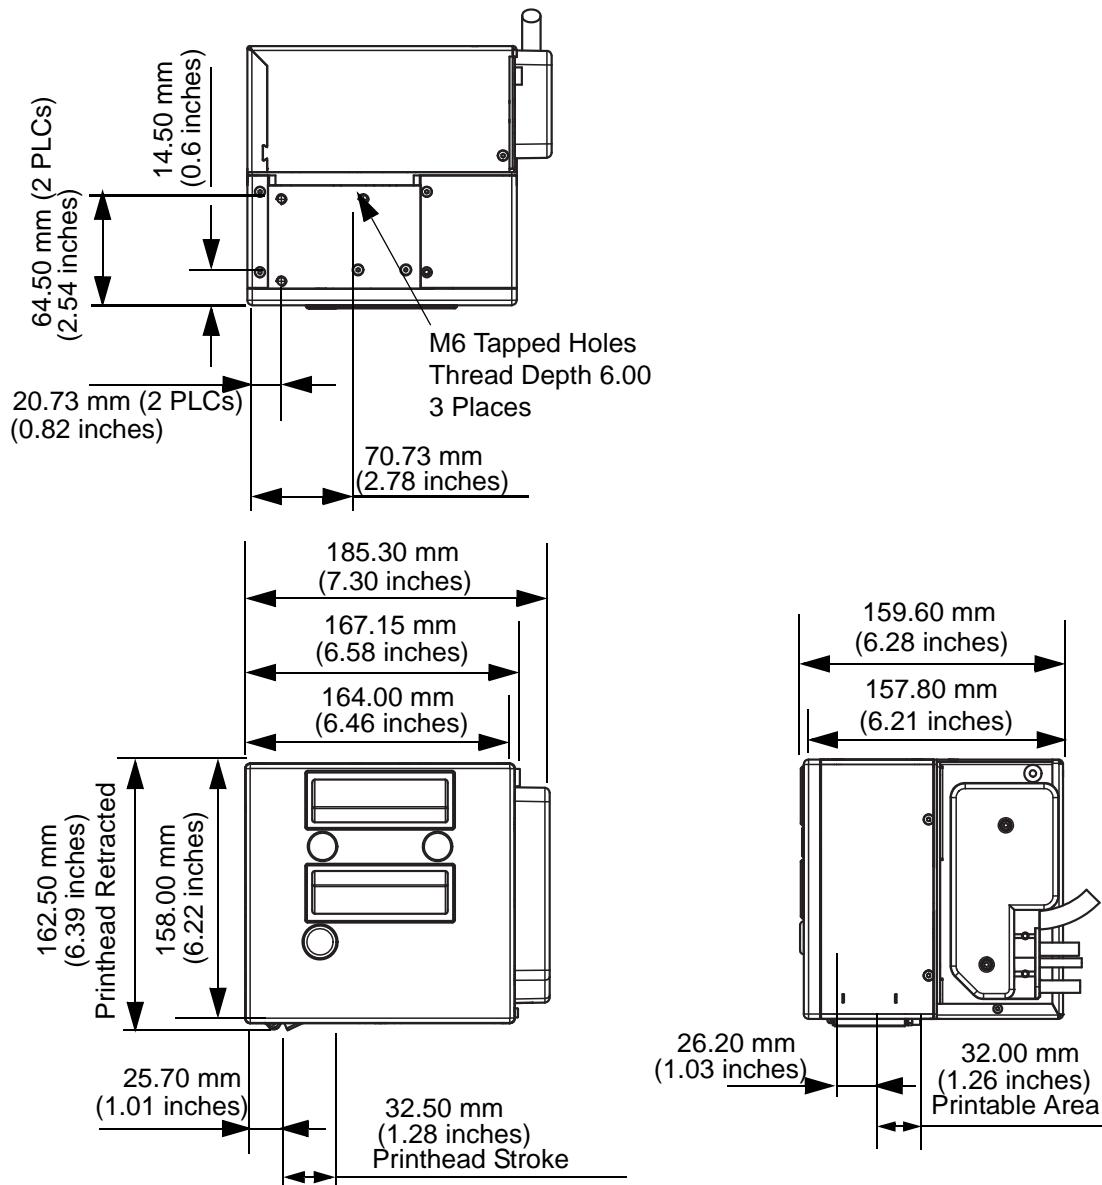

Figure 6-1: Videojet 6210 30 mm RH Printer Dimensions
Figure 6-1 shows the dimensions of the Videojet 6210 (RH) printer.